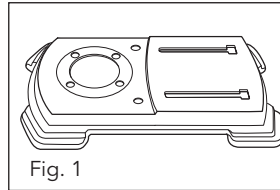

Fig. 1
1. Place the base (1) in the desired position (Fig. 1).